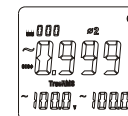

Figure 10-2
- As shown in Figure 10-2, please press SELECT key to select the 2nd phase location when adopting three-phase four-wire system for load so as to display active power, voltage and current of phase location of φ 2.
- Please press SELECT key to select the 3rd phase location of φ 3 for load of three-phase four-wire system. It also can display power factor (cos(φ)), voltage (V) and current (A) for phase location of φ 3.